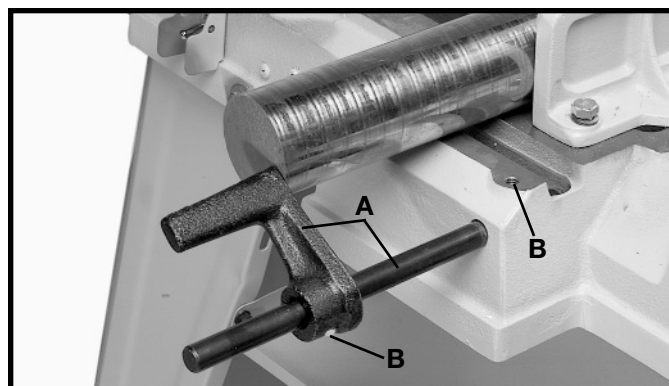

Fig. 6
Assemble the stock advance stop assembly (A) to the hole on the front of the table and tighten the two set screws (B), as shown in Fig. 6.